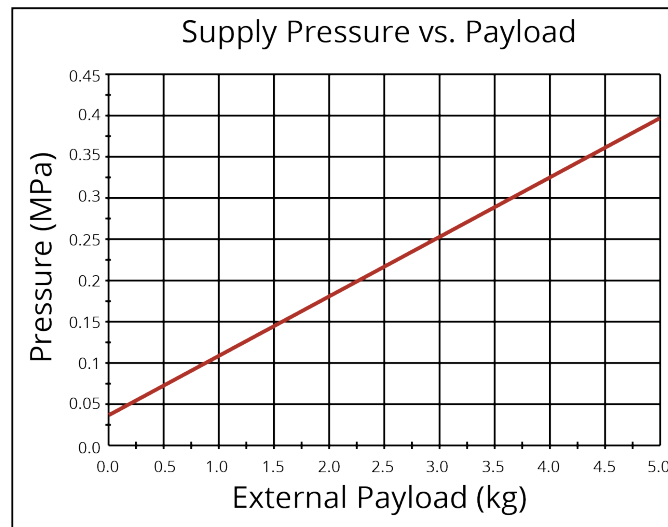

Figure 2-4: Counterbalance Pressure vs. External Payload
This relationship is shown graphically in Figure 2-4.
3. Connect the airline to the air supply, and slowly turn on the supply pressure to the counterbalance. The pressure supply should exceed the pressure determined by Figure 2-4.